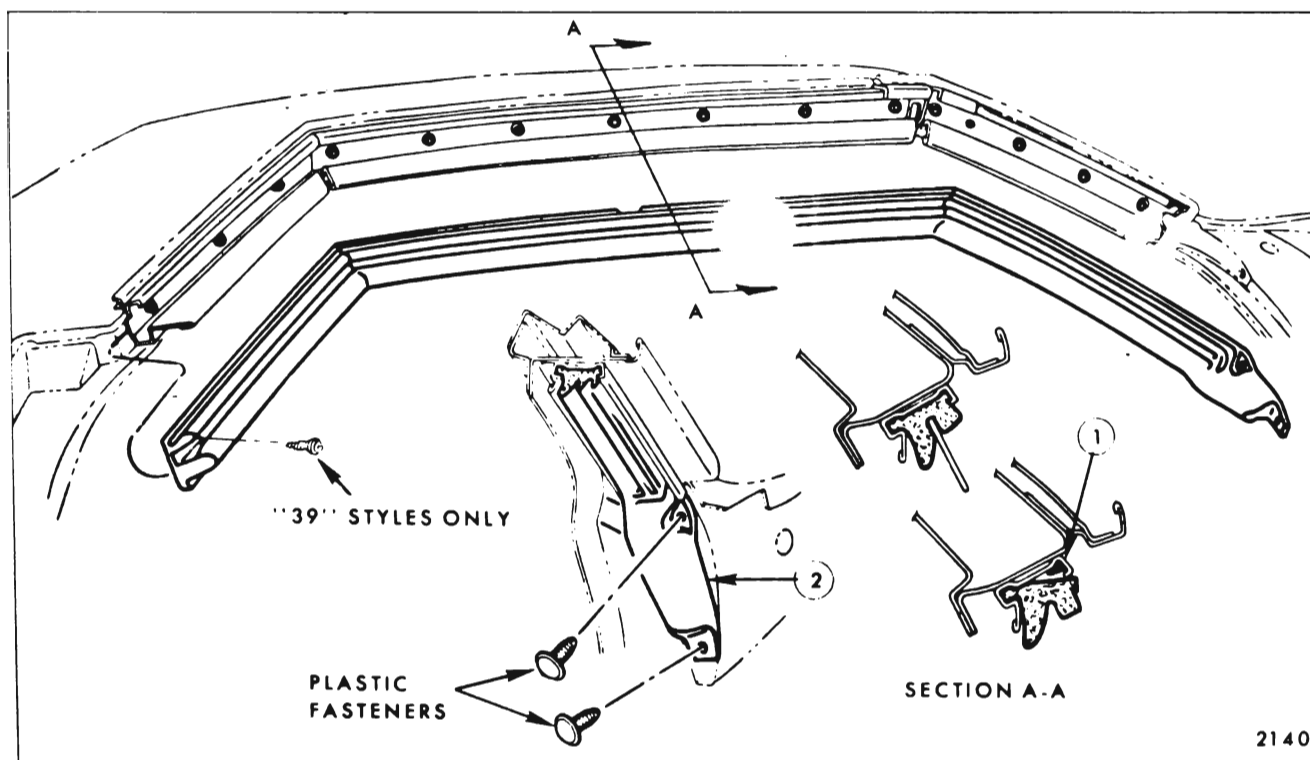
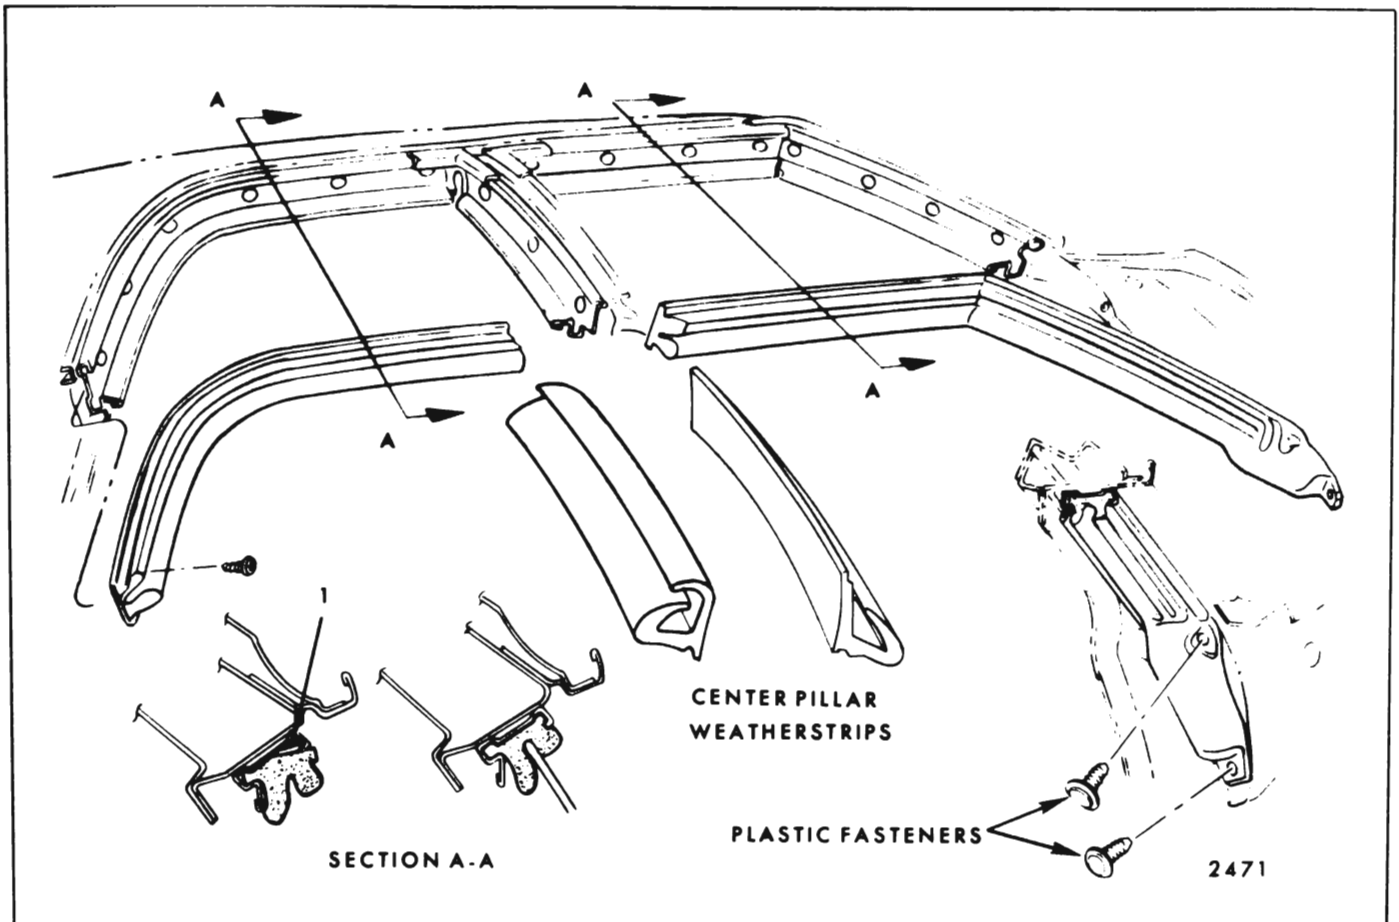

Fig. 6-16—Side Roof Rail Weatherstrip - All "17-37-39-57" Styles and "B-87" Styles
Fig. 6-17 — Side Roof Rail and Center Pillar Weatherstrips - "C-69" Styles
1. Remove plastic fasteners at front and screw at rear of side roof rail weatherstrip. On "C-69" styles, plastic fasteners are used at front of front door side rail weatherstrip and screw at rear of rear door side rail weatherstrip (See Fig. 6-16 for "17-37-39-57" and "B-87" styles and Fig. 6-17 for "C-69" Styles).
outboard flange of weatherstrip retainer ("1", Figs. 6-16 and 6-17). Extend adhesive down front body hinge pillar to seal lower front end of weatherstrip that is retained with plastic fasteners.
6. Position front end of weatherstrip to body and install plastic fasteners. Then, using a flat-bladed tool, begin engaging weatherstrip with retainer as shown in Section "A-A", Figures 6-16 and 6-17. Engage inboard lip of weatherstrip first, then, outboard lip.